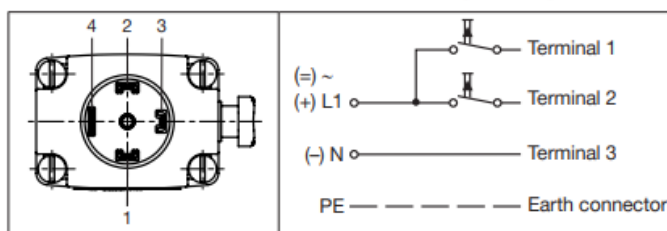

Fig. 8: Circuit diagram
- Pulse valves (variable code CF 02) as in "Fig. 8: Circuit diagram" connect. Pulse to Terminal 1 closes the valve; pulse to Terminal 2 opens the valve.